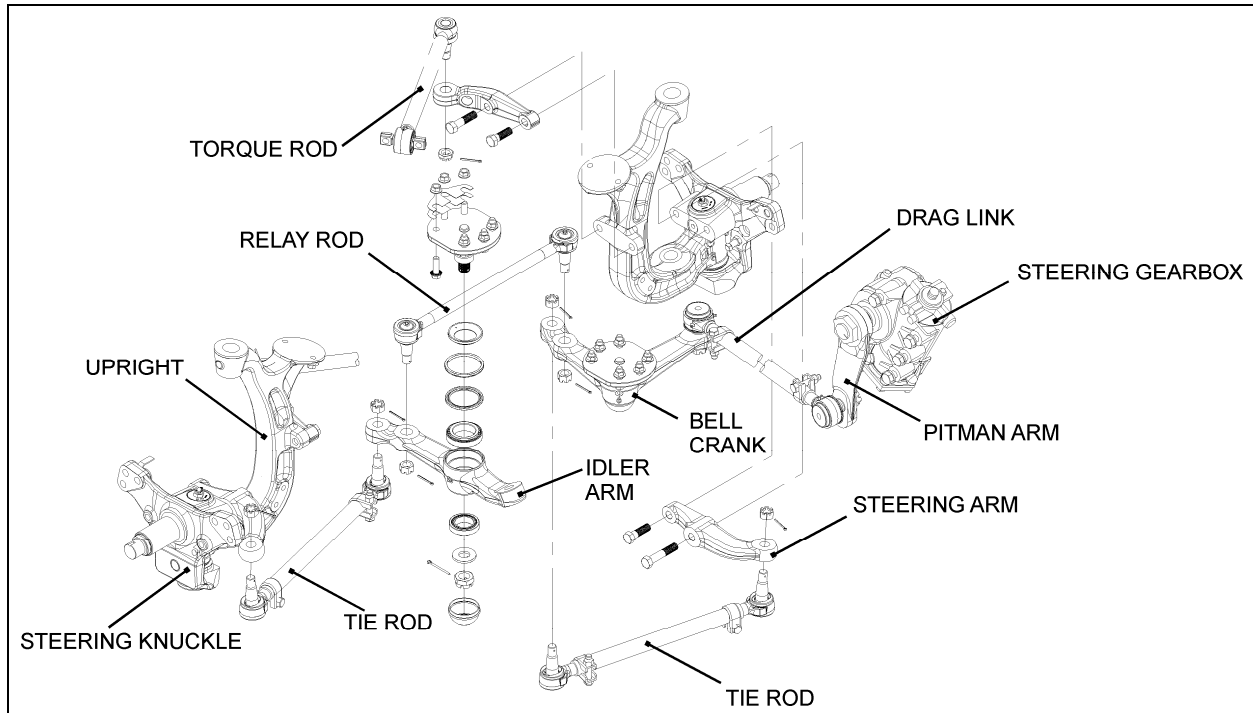

FIGURE 11: IFS STEERING LINKAGE OVERVIEW
3. While performing a full left and right turn, check for proper position of the tie rod end clamp bolt and nut and drag link end clamps in order to avoid clamps interfering with close parts. Refer to figure 11 for location and positioning of